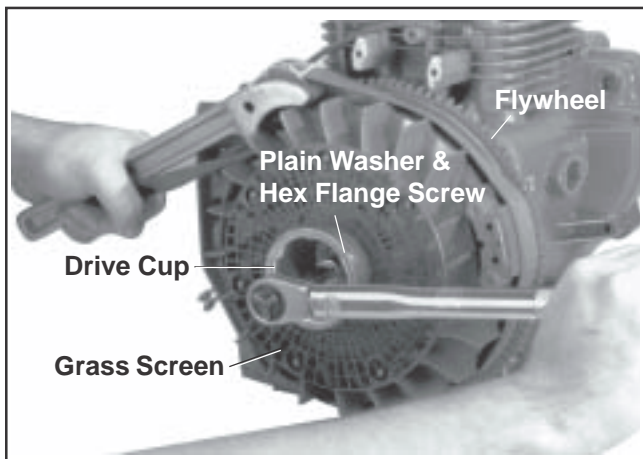

Figure 11-26. Installing Flywheel.
4. Place the flywheel over the keyway/crankshaft. Install grass screen, drive cup, plain washer (flat side of plain washer towards the drive cup), and the hex flange screw. See Figure 11-26.
5. Hold the flywheel with the strap wrench or holding tool and torque the hex flange screw to **66.4 N·m (49 ft. lb.)**. See Figure 11-26.